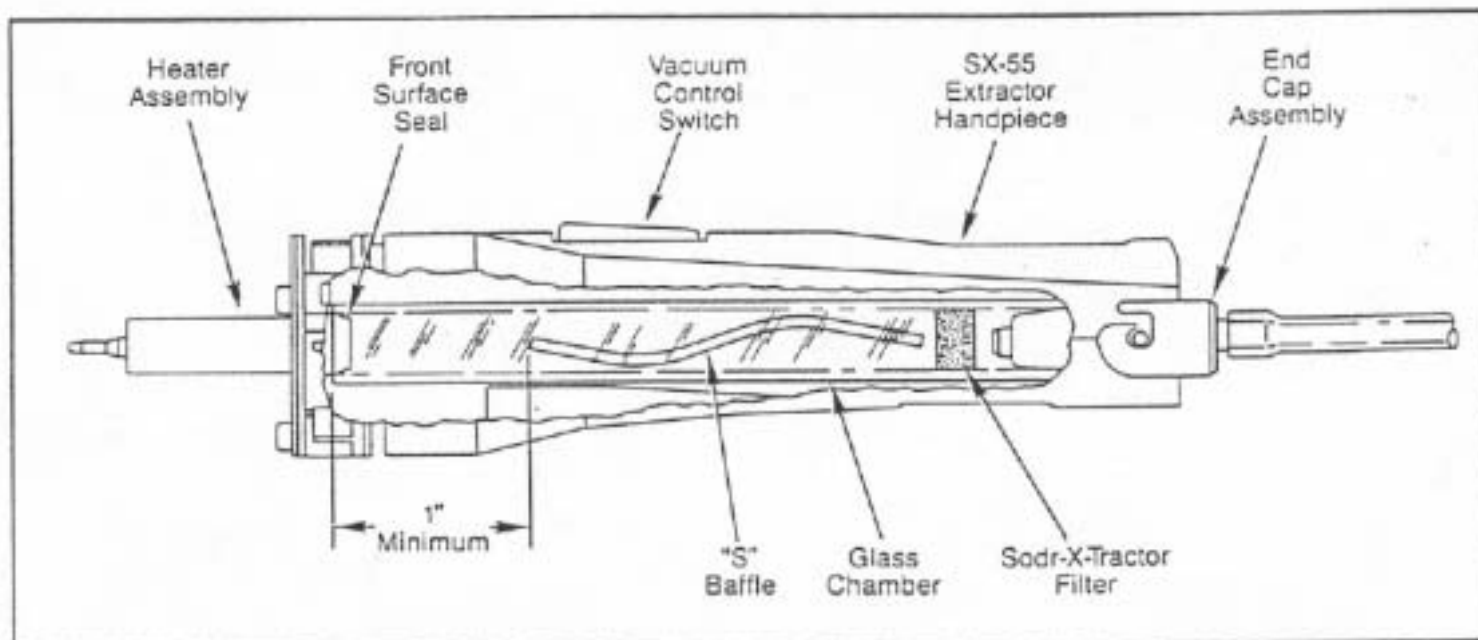

FIGURE 6. CUTAWAY OF EXTRACTOR HANDPIECE AND GLASS CHAMBER
**CLEANING SOLDER COLLECTION CHAMBER**—Solder and flux build-up in the Glass Chamber depends on usage. To clean the Glass Chamber, proceed with the following steps (see Figure 6):
- seat baffle just in front of the End Cap Assembly, leaving enough room for Filter. The front end of the Baffle must be positioned at least 1" from the Front Surface Seal (see Figure 6).
- remove End Cap Assembly and Glass Chamber (refer to Figure 6).
- remove the End Cap Assembly and Glass Chamber (refer to Figure 6).
- remove the End Cap Assembly and Glass Chamber from SX-55 Extractor Handpiece, refer to Figure 6,
- remove the three (3) Heater Mounting Screws from SX-55 Extractor Handpiece. (**NOTE: DO NOT** pull Heater Assembly from the Handpiece at this time),
- using Tip Tool or Needle Nose Pliers, disconnect the three (3) leads plugged into the PC Board of the Cord and Switch Assembly,
- remove the three (3) Heat Dissipator Mounting Screws from Handpiece,
- remove two (2) Handpiece Mounting Screws from Handpiece,
- remove the two (2) Switch Assembly Mounting Screws,